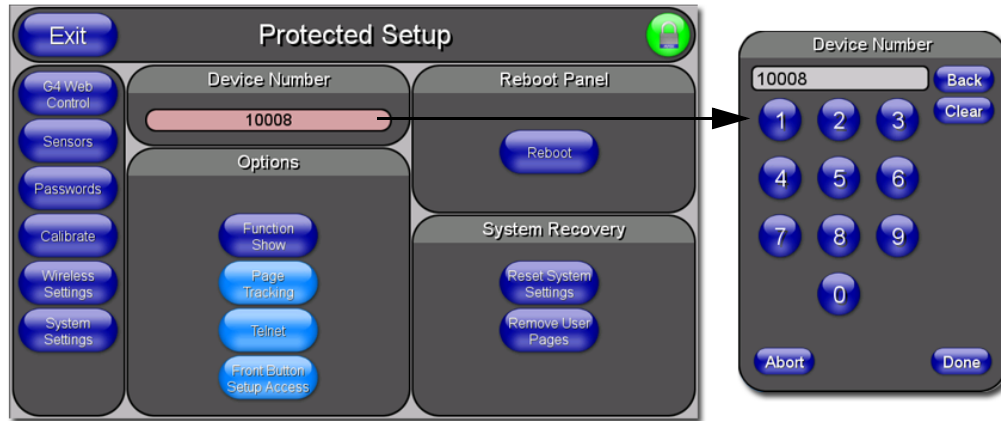

FIG. 50 Protected Setup page
4. Press the red **Device Number** field to open the Device Number keypad (FIG. 50).